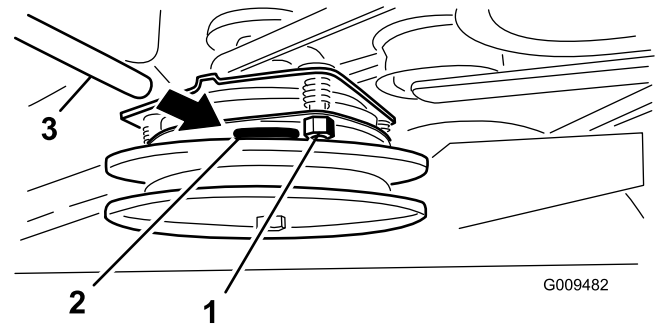

Figure 59
2. If adjustment is needed, then set at .015 inches (0.381 mm) for each of the three adjustment slot positions. Tighten the lock nuts until there is slight binding on the feeler gauge but it can be moved easily within the air gap (Figure 59).